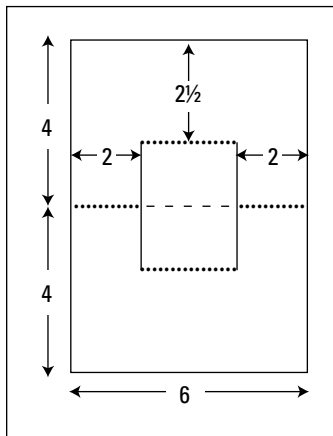

Figure 6-3:
- 1. Using a pencil and ruler, mark the lines from the template in Figure 6-3 onto your card.**